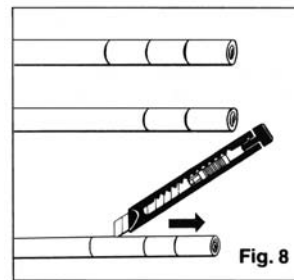

Fig. 8
G. Open the tool and remove the stripped cable, see fig. 8. Remove the stripped parts. If the insulation is hard to remove, use a knife to slit it open, fig. 8. If the center conductor is too long, adjust this with a cutter.